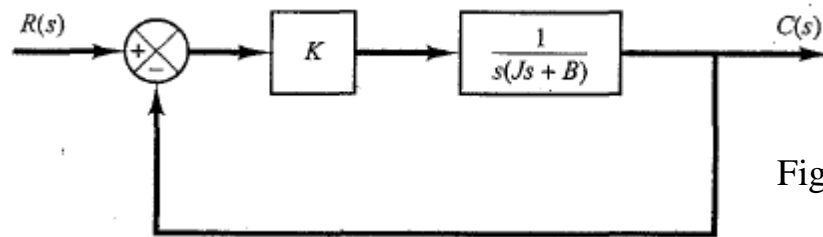

Fig. 3
- 4) Consider the system shown in Fig. 3. Prove that the steady-state error for a unit ramp input is  $\frac{2\zeta}{\omega_n}$ . Also show that the damping ratio is  $\frac{B}{2\sqrt{KJ}}$  and the undamped natural frequency is  $\sqrt{\frac{K}{J}(1 - \zeta^2)}$